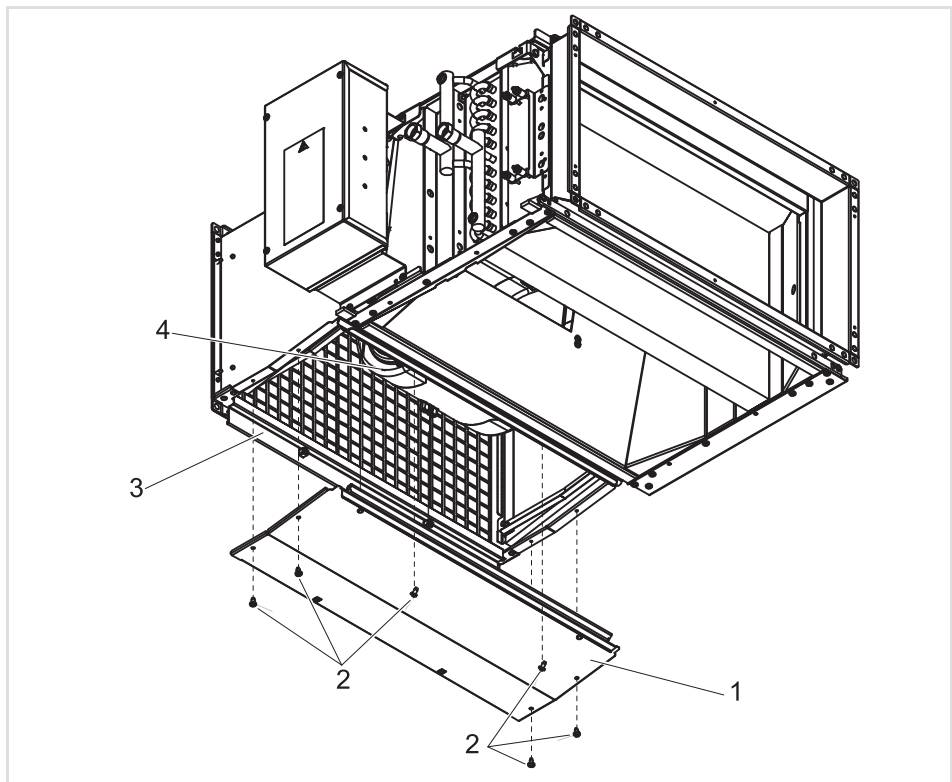

Fig. 8-6: Check fan
- Open the filter flap (see Fig. 8-6, Pos. 3) as described in Chapter 8.2.1 and remove the filter if necessary.
- Disassemble the cover panel of the fan chamber (see Fig. 8-6, Pos. 1, 3 screws each right and left).
- Check the fan(s) for ease of movement (see Fig. 8-6, Pos. 4).